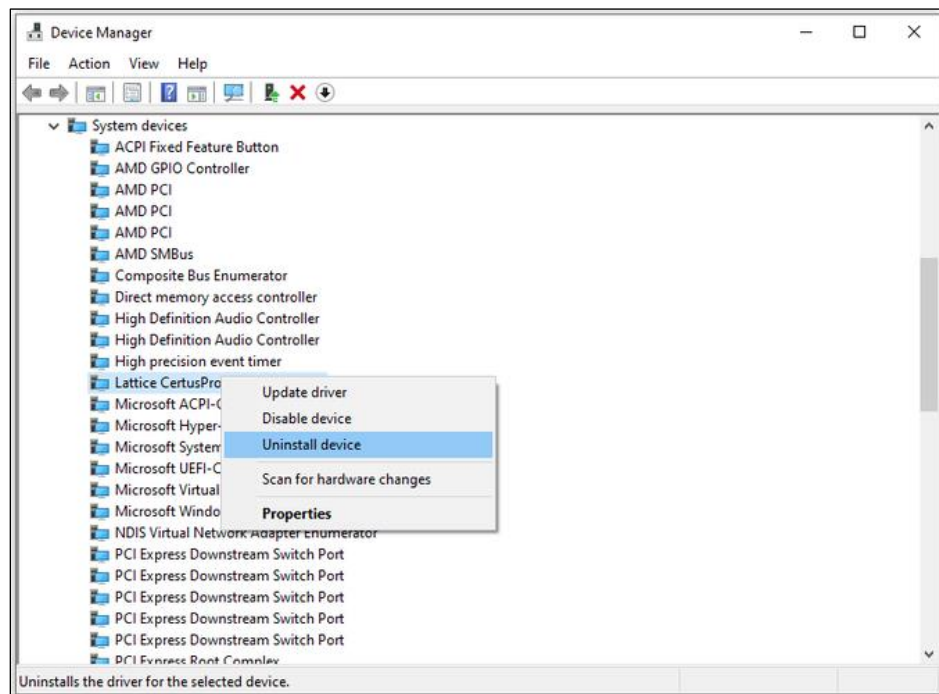

Figure 5.50. Uninstall the Device in Device Manager
2. Right-click on the device driver and select **Uninstall device** as shown in Figure 5.50.